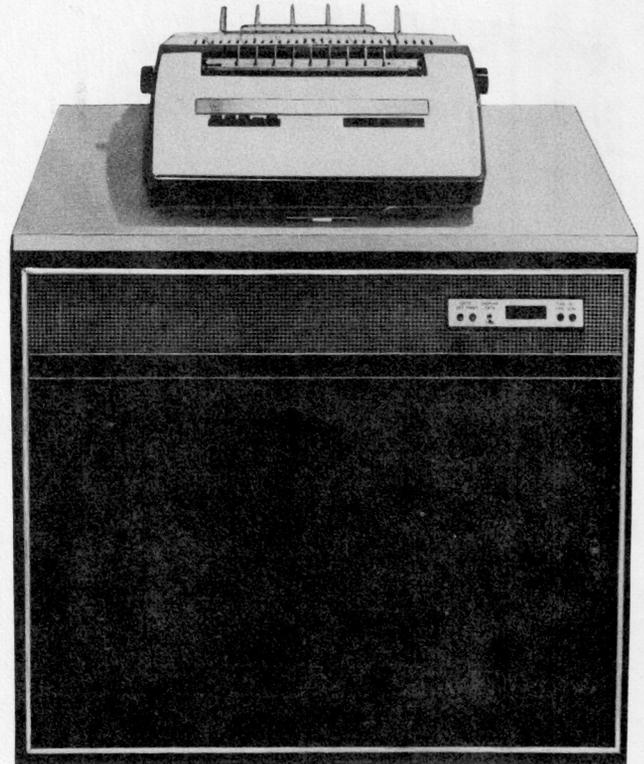

Fig. 1—SMDR Direct Output and Typical Printer
- (1) The **direct output** version can be provided in a small stand-alone cabinet (Fig. 1).